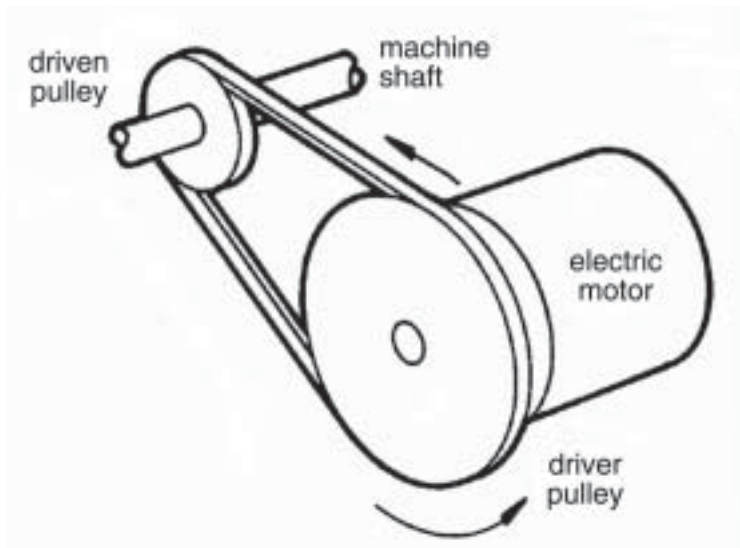

Fig. 13
- 14 Fig. 13 shows a pulley and belt drive system.